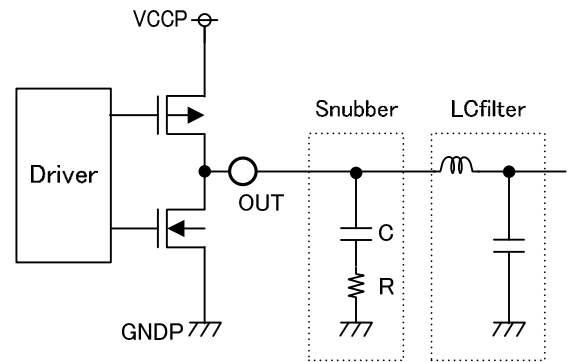

Figure 80. snubber schematic
- ① Measure the spike resonance frequency  $f_1$  of the PWM output wave shape (When it stands up.) by using FET probe in the OUT terminal. (Figure 80) The FET probe is to monitor very near pin and shorten ground lead at the time of that.
- ② Measure resonance frequency  $f_2$  of the spike as a snubber circuit fixed number  $R=0\Omega$  (Only with the condenser  $C$ , to connect GND) At this time, the value of the condenser  $C$  is adjusted until it becomes half of the frequency ( $2f_2=f_1$ ) of the resonance frequency  $f_1$  of ①. The value of  $C$  which it could get here is three times of the parasitic capacity  $C_p$  that a spike is formed. ( $C=3C_p$ )
- ③ Parasitic inductance  $L_p$  is looked for at the next formula.